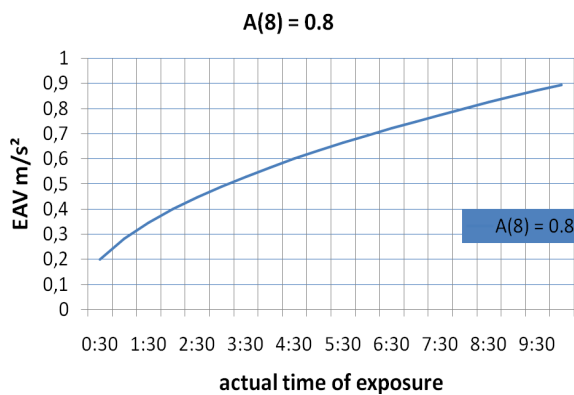

Figure 1: actual time of exposure and corresponding EAV for an A(8) of 0.8 m/s². For an EAV of 0.5 m/s² only 3 hours of vibration exposure is allowed.
The A(8) value is the vibration exposure value for a period of 8 hours [m/s²]. The actual values you measure are independent on the measurement time if measurement conditions are always the same. Depending on the actual time of exposure you may have different values (Figure 1).